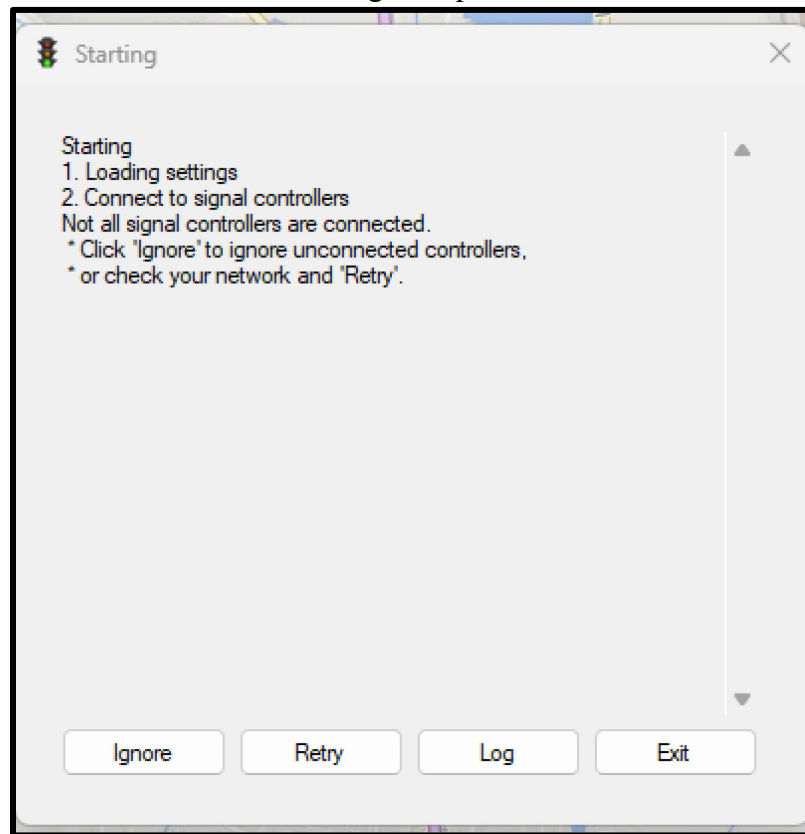

Figure 56: Error if any controller(s) is not in operation or communication is interrupted.
- i) If one or all of the controllers are not turned on or if communication is interrupted, PASS will present an error, as shown in Figure 56. If users see this error, ensure all controllers are in good operation and communication is effective.